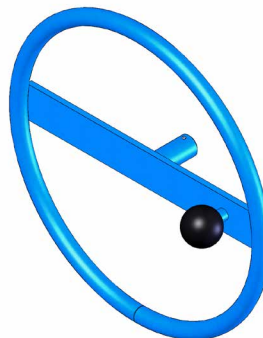

**Figure 2.2**
- 2. Top Rim Clamp Kit # 4560B-P** to handle a RIMMED plastic drum (figure 2.2). Install the Top Rim Clamp Kit to handle a RIMMED plastic, steel or fiber drum with suitable top rim.